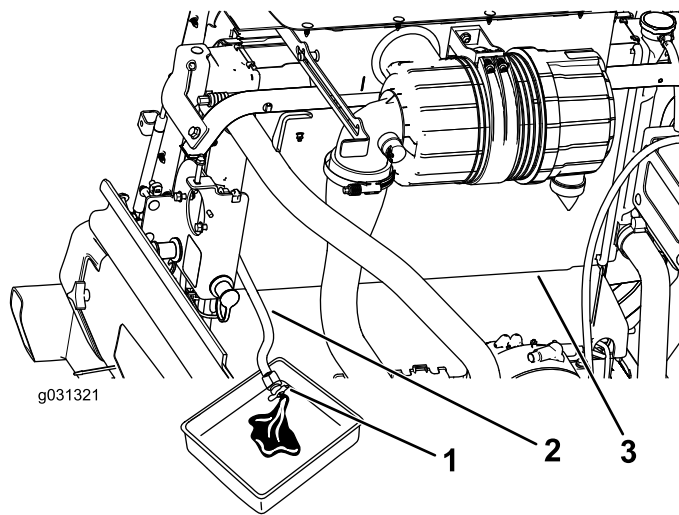

Figure 121
3. With the radiator drain hose placed in a drain pan, open the drain valve on the radiator hose and drain the fluid into a drain pan (Figure 121).
4. Close the valve on the radiator drain hose (Figure 121).